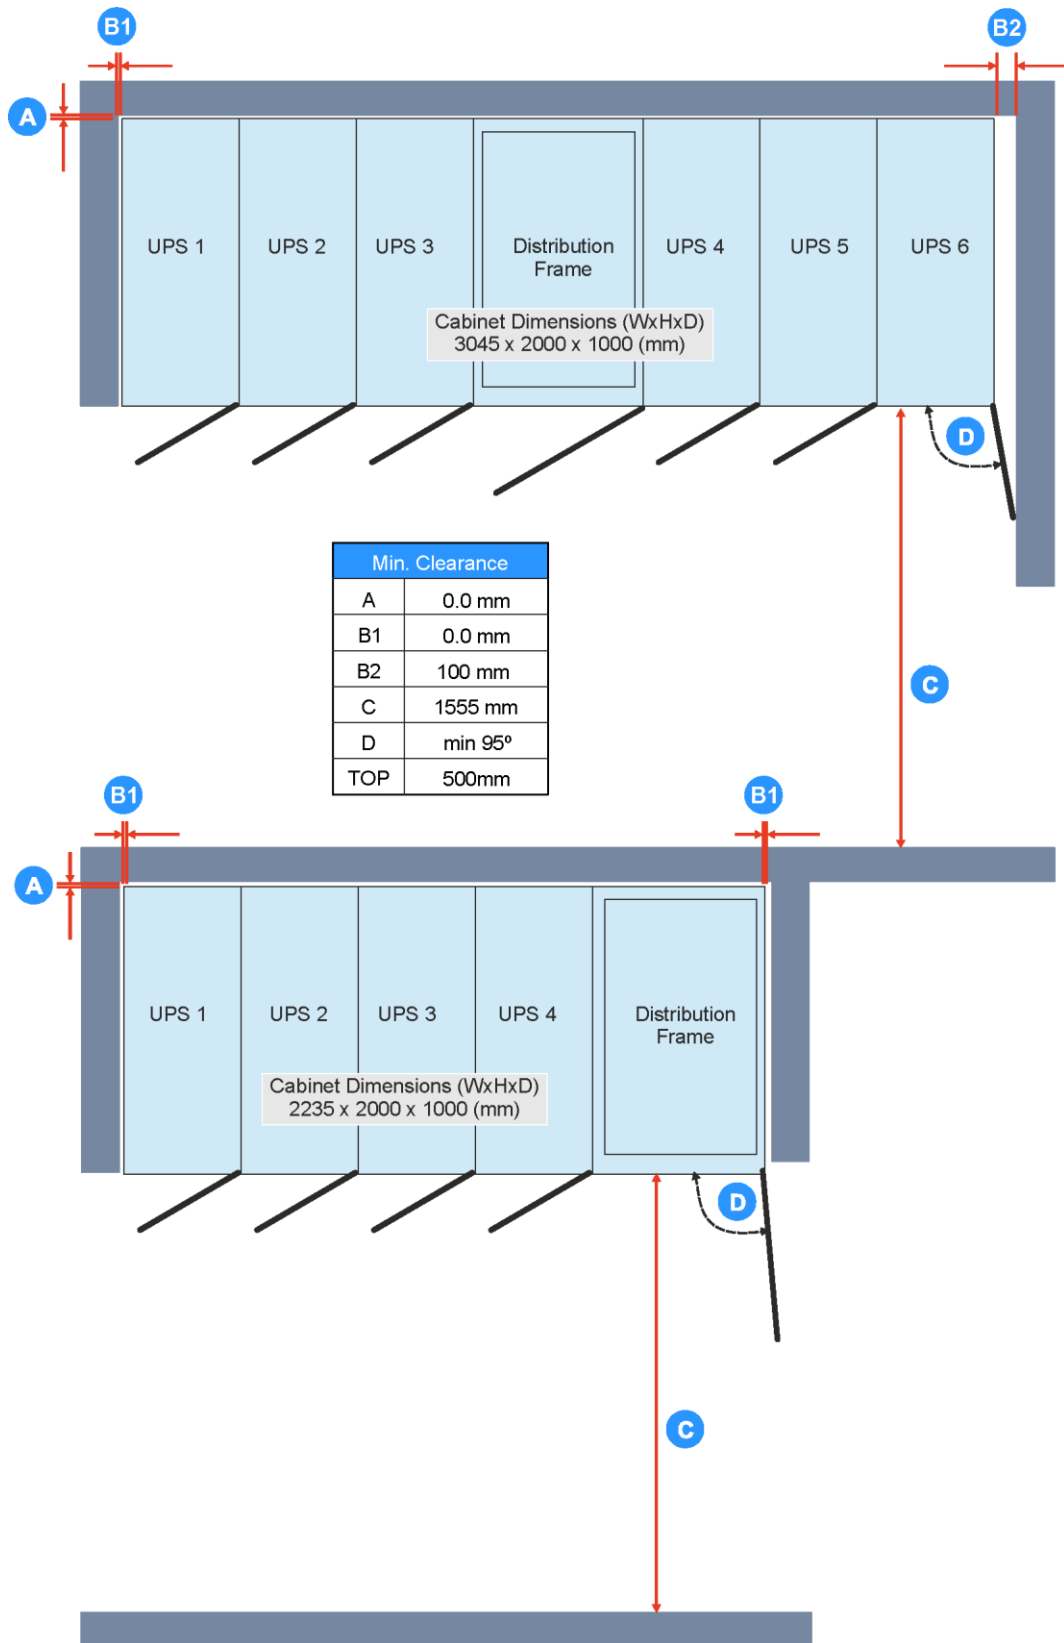

Figure 4.1 Clearances for a PW MF1500 DPA stand-alone cabinet
Figure 4.1 illustrates the required PW MF1500 DPA UPS cabinet installation clearances. This drawing shows that no back (A) or side (B1) clearance is required; however the cabinet doors must be opened to at least 95° in order to access/ remove some components, so if the wall at the right of the UPS cabinet protrudes beyond the cabinet front then a minimum clearance of 100 mm (B2) must be provided to allow the door to be fully opened. A front clearance of 1555 mm